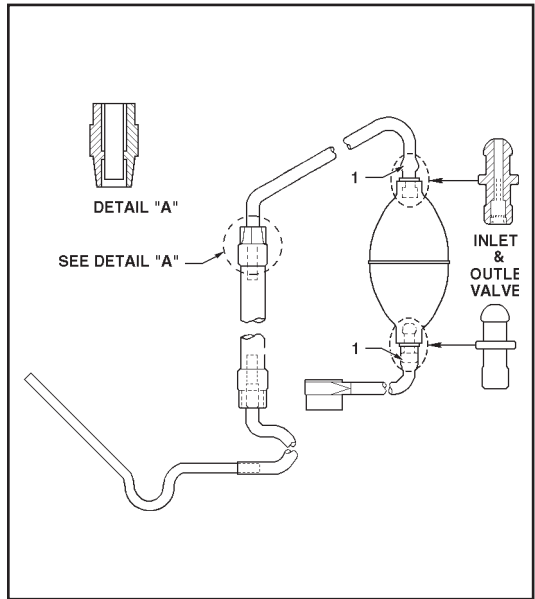
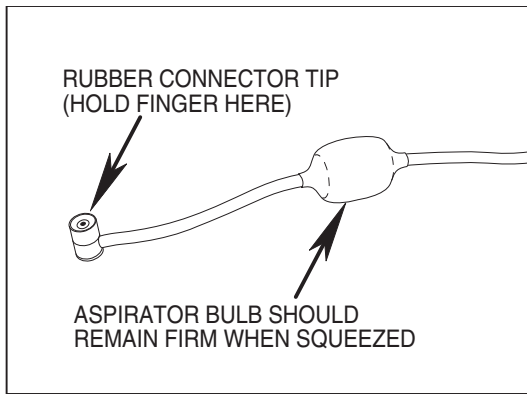
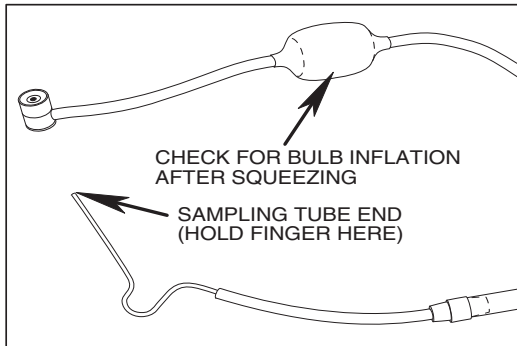

Figure 26. FYRITE Sampling Assembly; Locating Inlet/Outlet Check Valves.
Figure 27. Testing Sampling Assembly (outlet side) for leaks.
Figure 28. Testing Sampling Assembly (inlet side) for leaks.
6.7 Aspirator Bulb - Sampling Assembly (Refer to Figs. 26, 27, & 28)
with finger and squeeze Aspirator Bulb (Figure 27). Bulb should remain firm. If Bulb collapses, check Bulb and Hose to Connector Tip for cracks or other source of leakage. Replace defective parts. If there are no apparent leaks in the Sampling Assembly, replace Inlet Check Valve. **Small hole end of Inlet Check Valve fits in Hose and large hole end fits in the Aspirator Bulb (Figure 26).**
Now seal end of metal Sampling Tube with finger, and collapse Aspirator Bulb. (Figure 28). If the Bulb returns to original shape in less than 15 seconds, inspect Hose, Filter, Saturator Tube and Metal Sampling Tube for leaks. If none are found, replace the Outlet Check Valve. **Small hole end of Outlet Check Valve fits in Aspirator Bulb and large hole end fits in the Hose (Figure 26).**